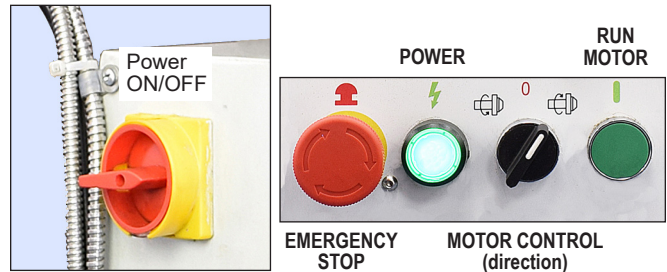
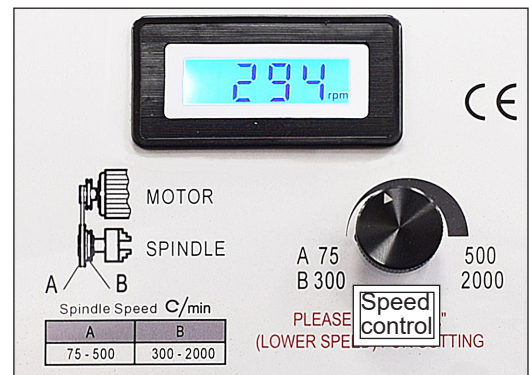

Figure 3-2 Motor controls
Figure 3-3 Tachometer & spindle speed control
#### Emergency Stop button Figure 3-2
To operate the lathe, turn on the power, Figure 3-2, left. Turn the **DIRECTION** switch to the left for normal machining operations (spindle runs counter-clockwise, view from the tailstock end). Turn the speed control, Figure 3-3, to a low setting to start with — almost fully counter-clockwise — then press the green **RUN MOTOR** button. Stop the motor by turning the Motor Control switch to its mid-point (0).
#### Speed display (tachometer) Figure 3-3
#### Speed control Figure 3-3